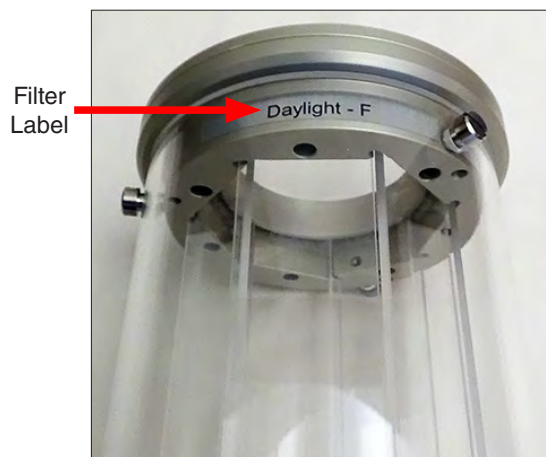

Figure 7.2b: Optical filter identification label.
- The optical filter system (lantern) consists of an outer glass cylinder and two rows of 7 flat optical filters arranged in a circle inside the cylinder (Figure 7.2b).
- A label at the top of the lantern identifies the filter type (Figure 7.2b).